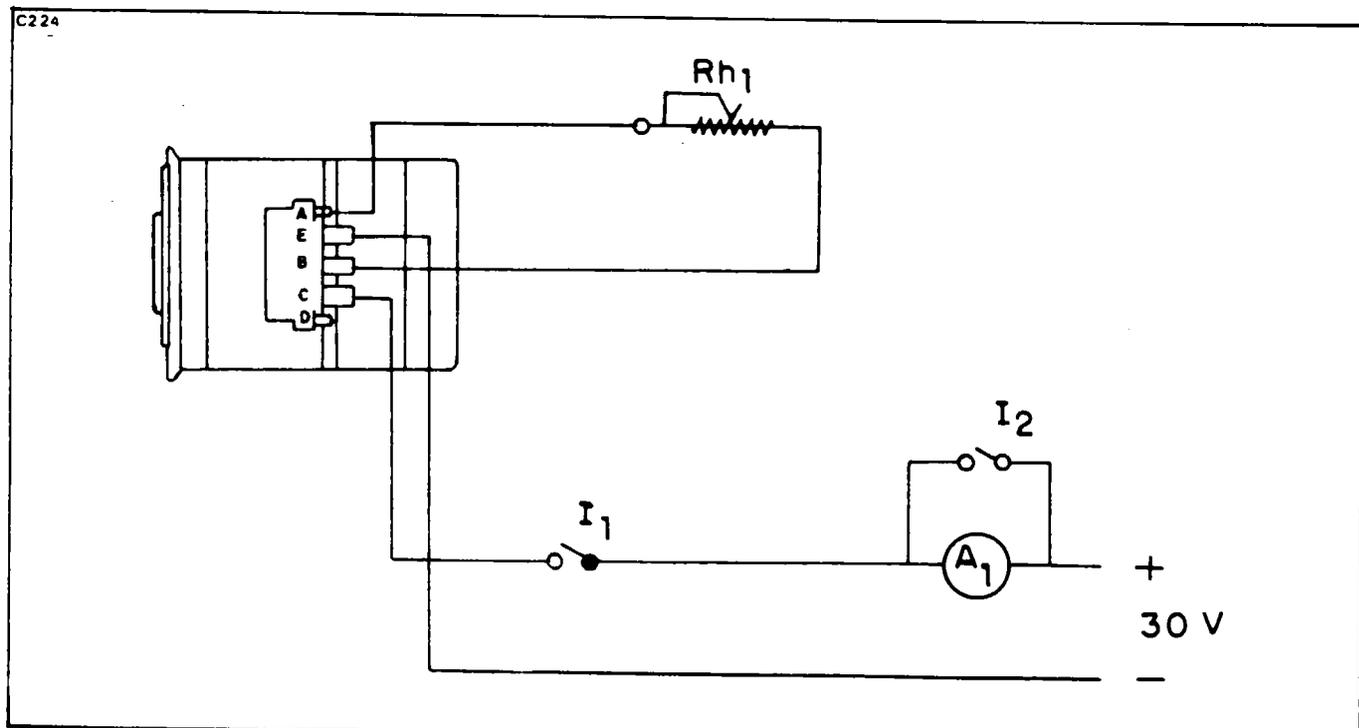

Figure 24-9. Brush Running in Diagram
**BRUSH RUNNING IN** (Refer to Figure 24-9).
- C. Connect the starter generator according to Figure 24-9.